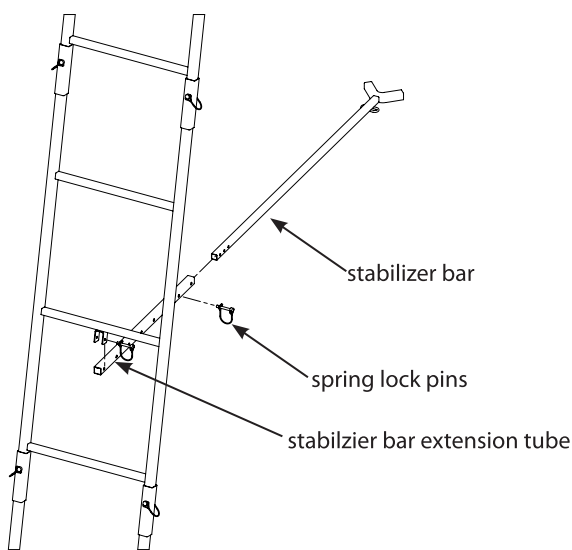

Figure 14
19. a. Attach the stabilizer bar extension tube (1ML23) to the second ladder section mounting bracket using (1) provided spring lock pin. **SEE FIGURE 14.**
b. Slide the stabilizer bar (L17) into the extension tube and attach the two pieces together using (1) provided spring lock pin. Spring lock pin must go through both the extension tube and stabilizer bar at appropriate hole to achieve desired distance from tree. Adjustment in length may be needed when ladder is uprighted later in instructions. **SEE FIGURE 14.**